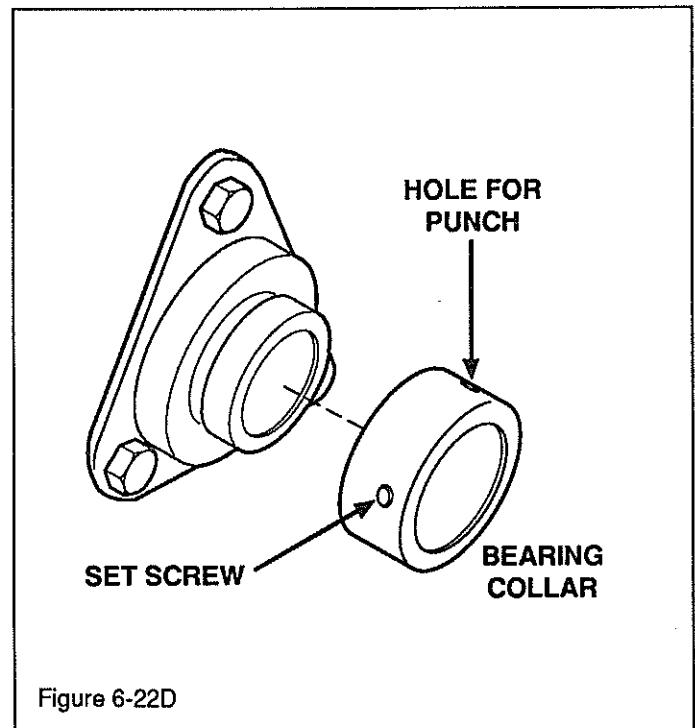

Figure 6-22D
- d. Remove set screw from locking collar (J, Figure 6-22A and 6-22B). (To unlock collar, see step 3b, Figure 6-22D.)
- e. Remove set screw from pulley (K). Remove pulley.
- f. Remove 4 cap screws and nuts from bearing flanges (L). Remove bearings (N) and bearing flanges.
- g. Remove rotor drive shaft (M).